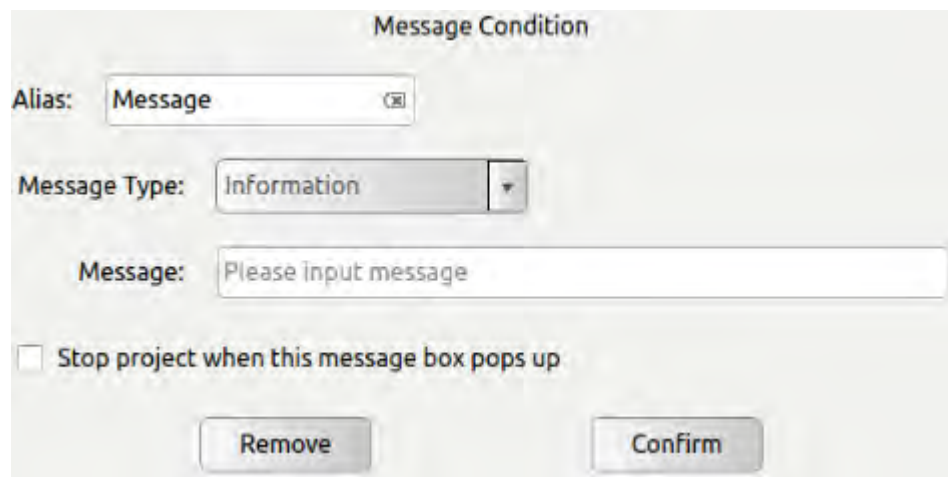

Figure 11.18 Message
- 1 Click **Input condition** to input condition expression based on C language arithmetic rule, as shown in Figure 11.18(b). If the condition is evaluated to True, the lines inside this If are executed. If an expression evaluates to False while inside the body of the If part, the following Else If or Else statements will be executed.